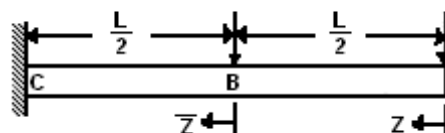

Figure 2:
3. For the three noded cantilever beam as shown in figure 2, determine global stiffness matrix and lumped mass matrix. [16]